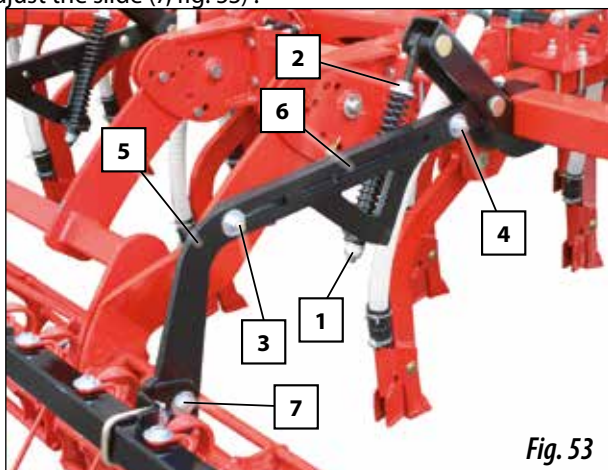

Fig. 53
Adjust the lower nut (1, Fig. 53).
Adjust the tensioner upper nut (2, Fig. 53).
Adjust the slide (7, fig. 53).
- 1- Loosen the nut (3, fig. 53).
- 2- Remove screw and nut (4, fig. 53).
- 3- Pull the slide (5, fig. 53) back and place the screw and nut in the hole (6, fig. 53) at the centre of the slide.